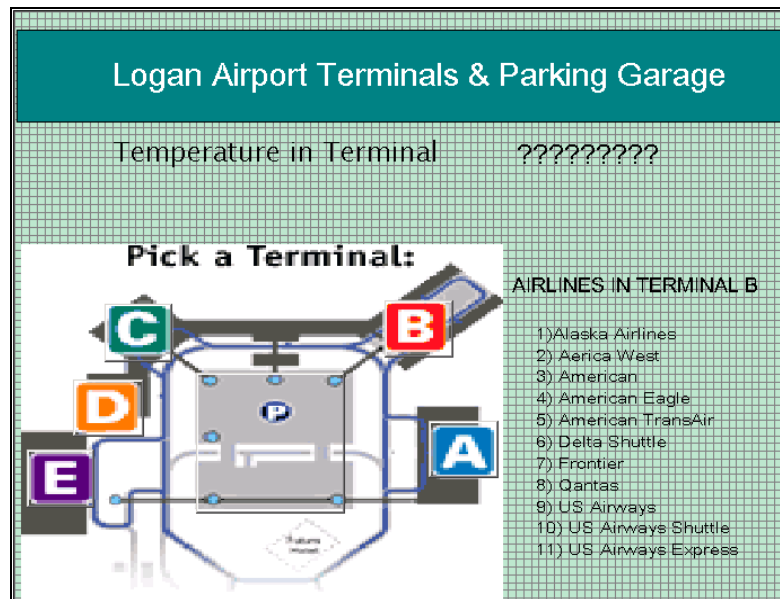

Figure 5.27
- 14 Group these two text fields just as you did for Layer 1 in step 10. **Layer 2** should look like **Figure 5.27** when you are finished.